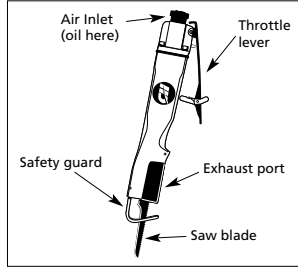

Figure 1
- Turn the air reciprocating saw so that the air inlet is facing up (refer to Figure 1).